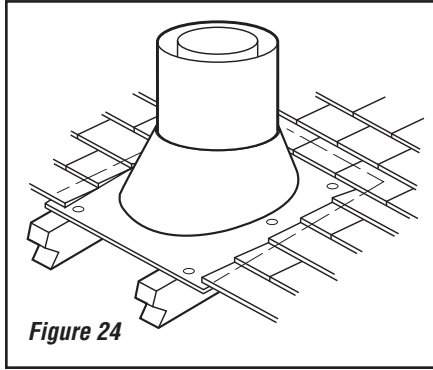

Figure 24
Step 7. Secure flashing by nailing along the perimeter into roof using 8d nails or equivalent fasteners. If shingled roof, slide upper end and sides of roof flashing under shingles (trim if necessary), seal the top and both sides of the flashing to the roof with roof caulking. Cover fastener heads with roof caulking (**Figure 24**).